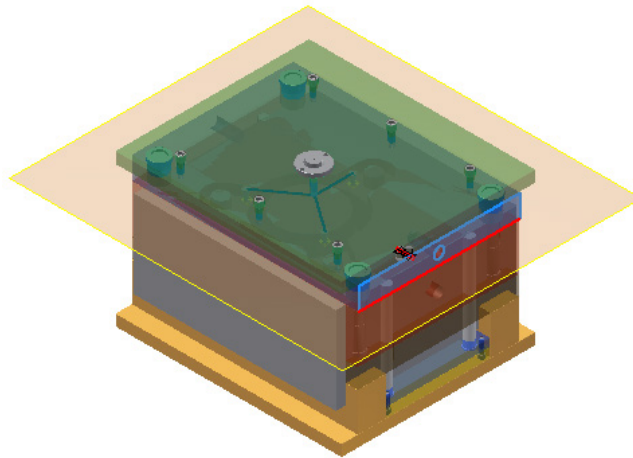

Figure 19-92 The face to be selected
2. Select the face shown in Figure 19-92; preview of the cooling channel is displayed.
4. Select the right vertical edge of the plane highlighted in Figure 19-92; the distance value is displayed with dimension line on the model and you are prompted to select a horizontal reference.
5. Select the top horizontal edge of the plane highlighted in Figure 19-92; the distance value is displayed.